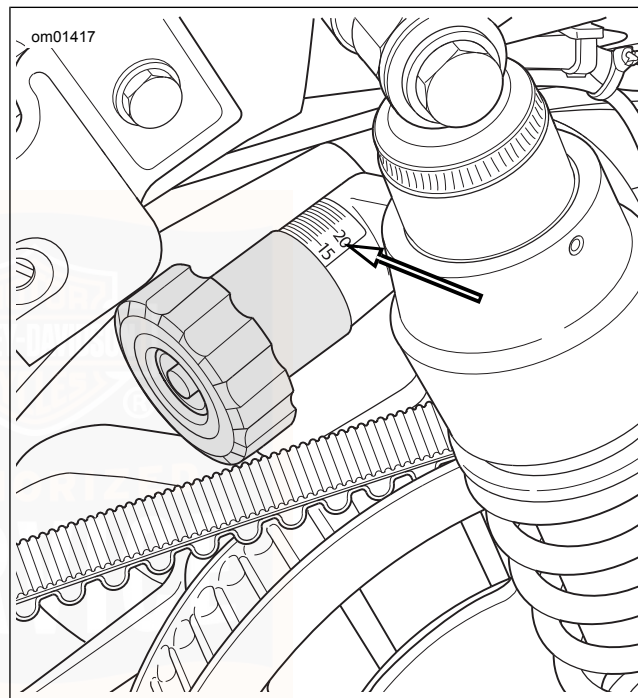

Figure 29. Preload Adjustment Knob
2. See Figure 29. Rotate the knob to the desired setting for the expected load. The knob clicks at each half turn. Refer to Table 18.